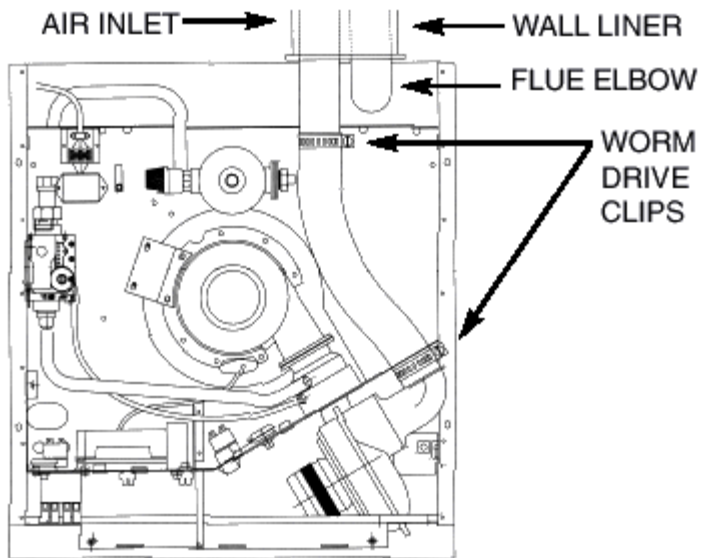

Fig. 9.4
- e. Push fully home ensuring inlet air pipe enters flexible duct and exhaust flue pipe engages socket. Secure inlet pipe with worm drive clip (See Fig.9.4).